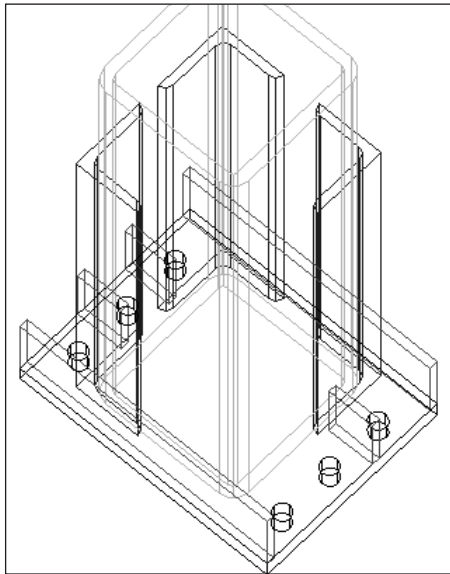

Figure 24-31: The sidebar has been aligned with the rest of the model.
5. AutoCAD aligns the sidebar. Save your drawing. It should look like Figure 24-31.